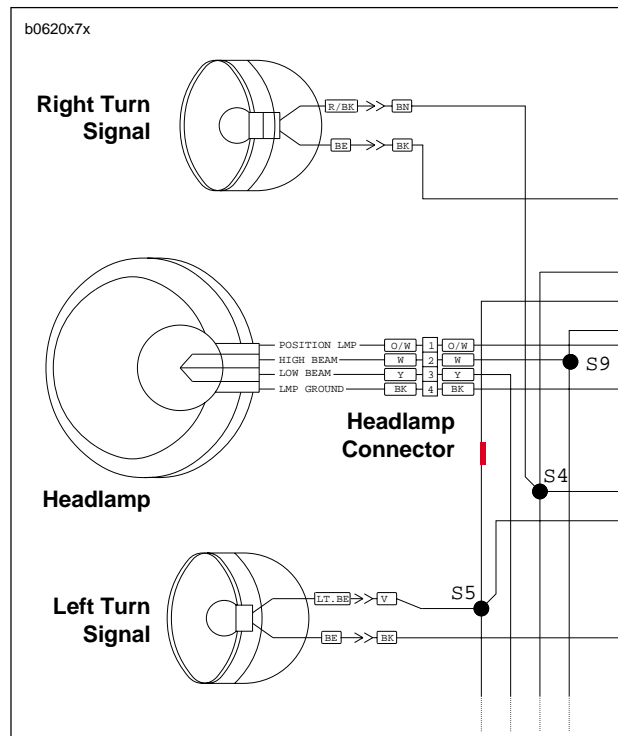
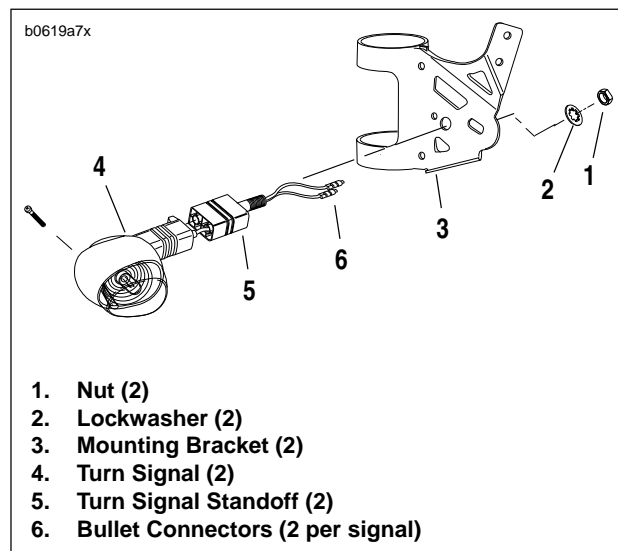

Figure 7-43. Front Turn Signal Connections
Figure 7-44. Front Turn Signals
2. See Figure 7-43. Disconnect bullet connectors on turn signal wires.
3. See Figure 7-44. Remove nut (1) and lockwasher (2) from mounting bracket (3).
4. Remove turn signals (4) and standoffs (5).
5. Pull bullet connectors (6) and wiring through hole in mounting bracket (3).
1. See Figure 7-44. Insert bullet connectors (6) through hole in mounting bracket (3).
2. Install turn signal (4) and standoffs (5) using lockwasher (2) and nut (1). Tighten nut to 25-28 in-lbs (2.8-3.2 Nm).
3. Attach bullet connectors on turn signal wires as shown in Figure 7-43.